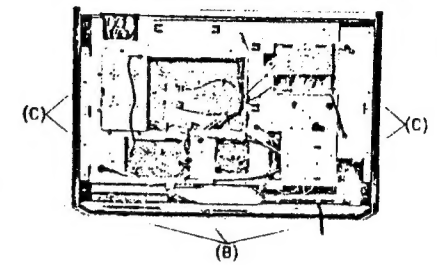
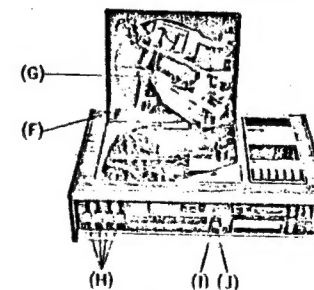

Fig. 3
Fig. 6
1. Remove the 13 screws (A) holding the bottom case in order to remove the case itself.
2. Remove the 3 screws (B) holding the back board and 4 screws (C) holding the chassis as shown in fig. 3.
3. The two protection screws (D) should be loosened (not remove) by turning clockwise.
4. Straighten the two lock pieces (E). The record changer mechanism can then be removed.
5. Disconnect the two connection cords (F) and the socket (G).
Remove the 4 control knobs (H), the selector knob (I) and the tuning knob (J) see fig. 6.
6. Remove the screw (K) holding the chassis.
- Fig. 6 shows a cross-section of the cam. The convex